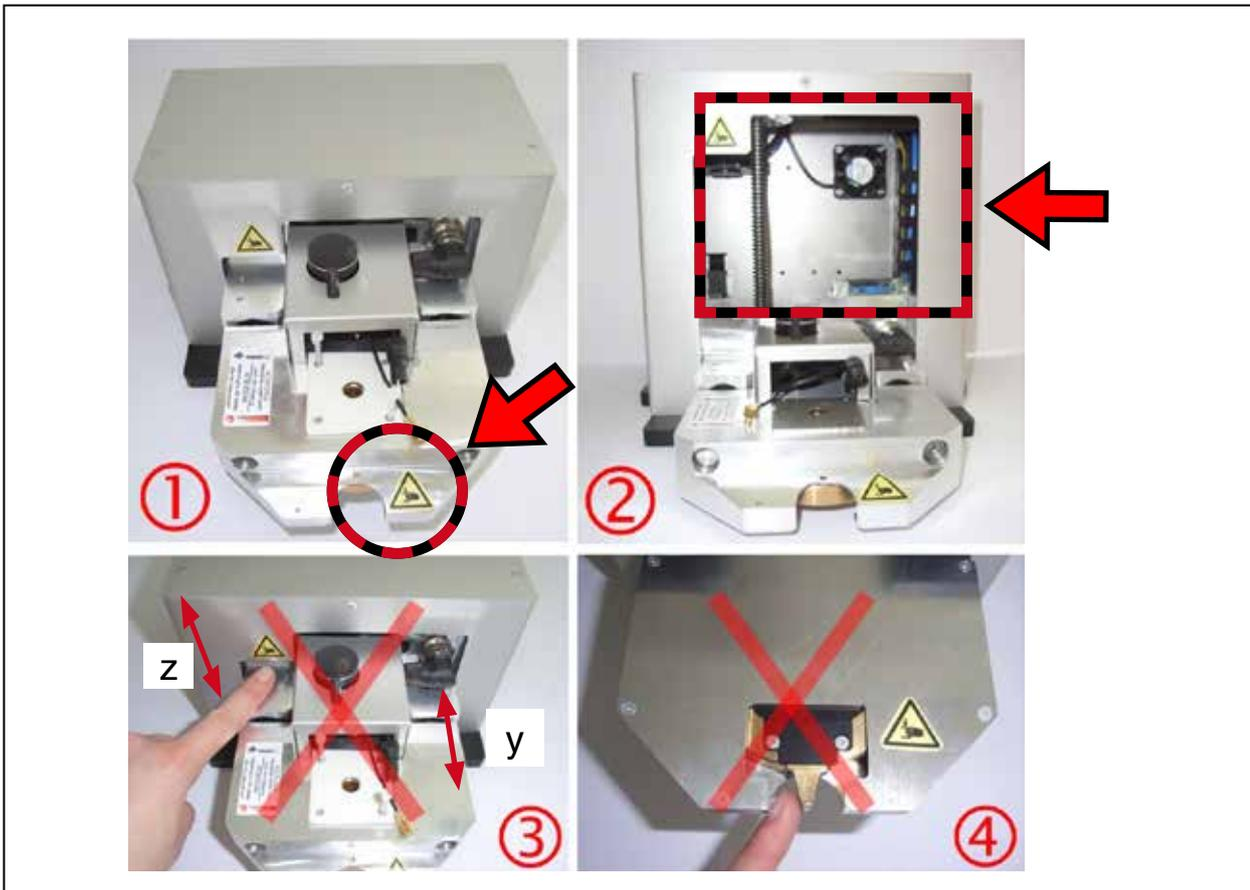

Fig. 5.1: Possible hazard areas of the FocusMonitor
- ▶ Do not reach into the beam entrance of the measuring device, neither with your hand nor with any items (pictures 1 and 4 in Fig. 5.1). Even after end of measurement the tip rotate for a while.
- ▶ Do not reach into the movement range of the measuring head (pictures 2 and 3 in Fig. 5.1).
The device bears the following pictogram to indicate possible dangers (see pictures 1 and 2 in Fig. 5.1):